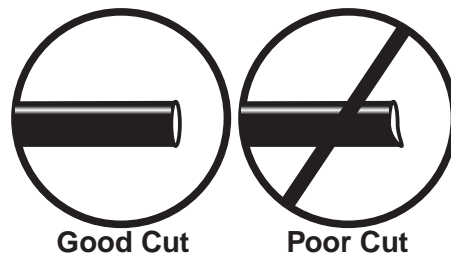

fig. 18
WHEN CUTTING OR TRIMMING THE AIR LINE, USE A HOSE CUTTER, A RAZOR BLADE, OR A SHARP KNIFE. A CLEAN, SQUARE CUT WILL ENSURE AGAINST LEAKS. DO NOT USE WIRE CUTTERS OR SCISSORS TO CUT THE AIR LINE. THESE TOOLS MAY FLATTEN OR CRIMP THE AIR LINE CAUSING IT TO LEAK AROUND THE O-RING SEAL INSIDE THE ELBOW FITTING (FIG. 18).
- a. Check the air line connection by deflating the spring and removing the line by pulling the collar against the fitting and pulling firmly on the air line. Trim 1" off the end of the air line. Be sure the cut is clean and square (see fig. 18). Reinsert the air line into the push-to-connect fitting.